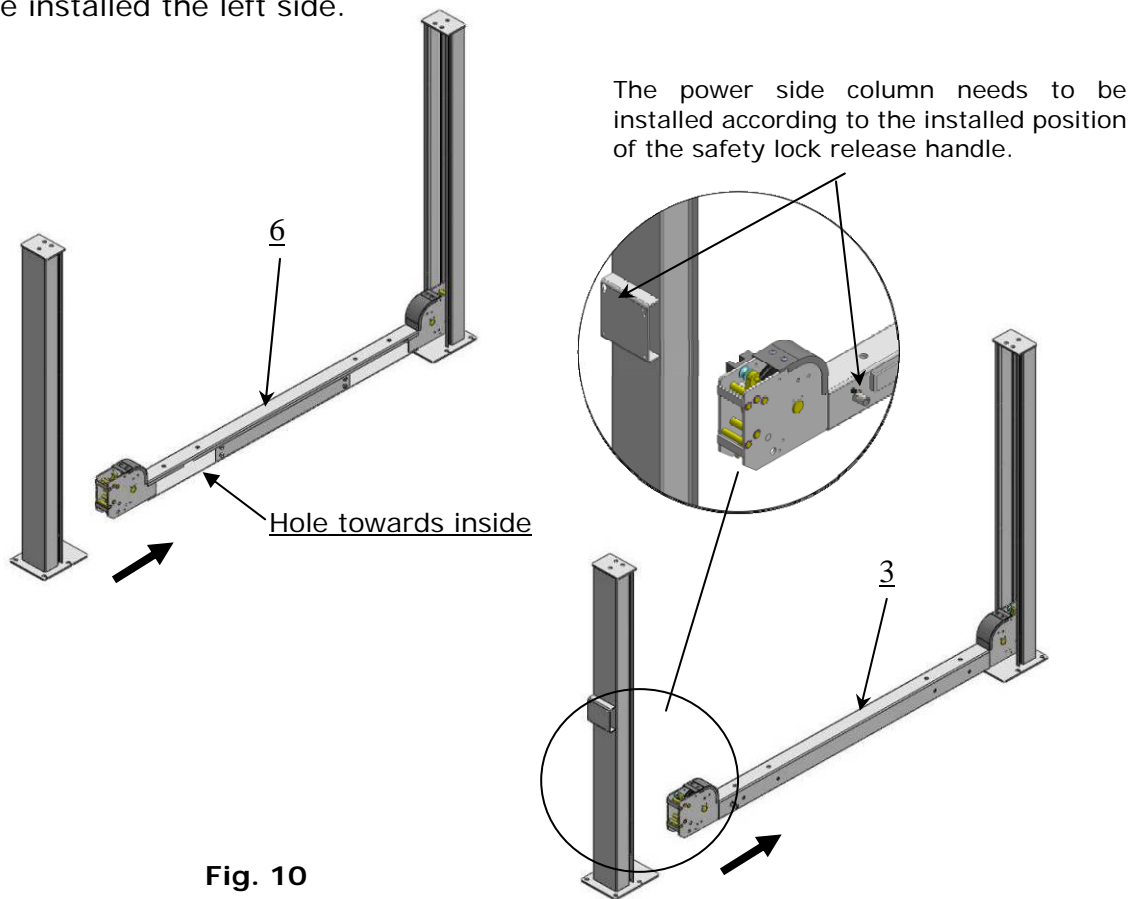
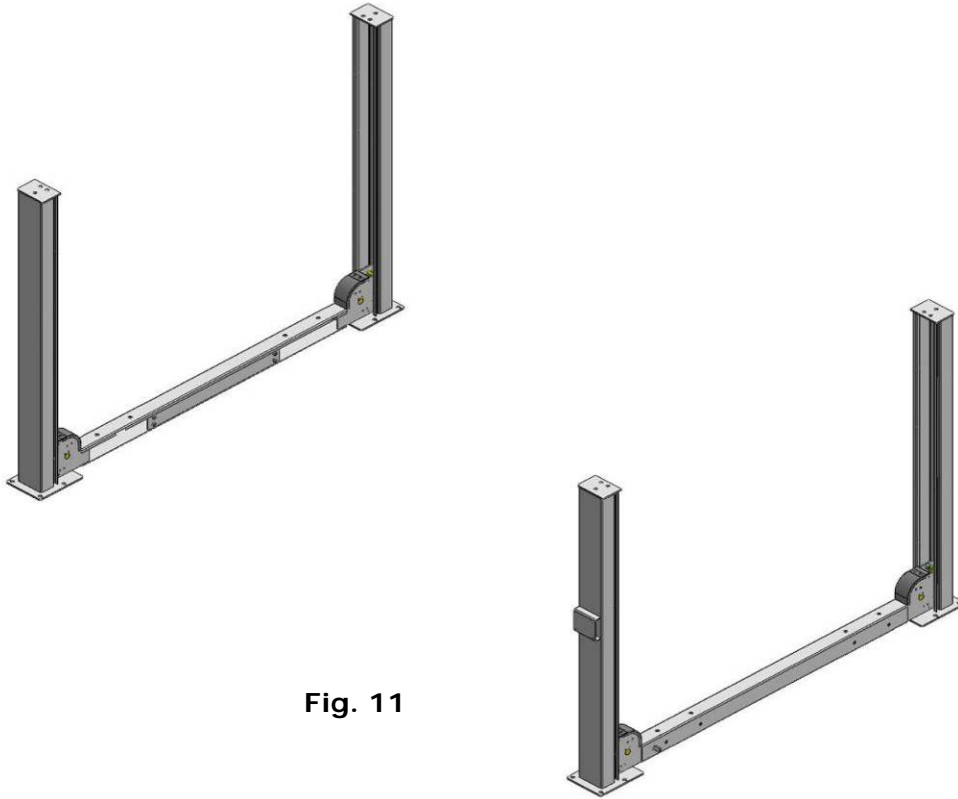

Fig. 10
Fig. 11
C. Install cross beams (See Fig.10, Fig.11).